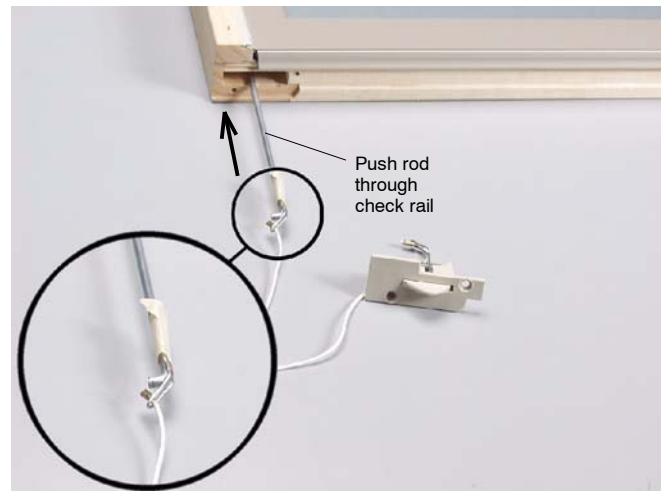

Figure 5-Fishing cord through sash
7. Tape the detached loop and cord to the end of the locking rod. See figure 5.
8. Carefully fish the rod (with the latch hoop attached) through the sash until it comes out the other side. Then pull the rod through until latch hoop appears. See figure 5.